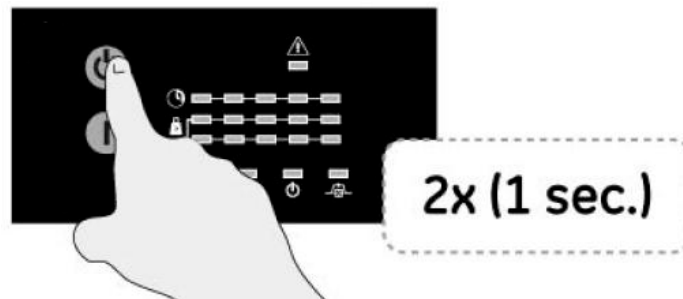

FIG 50 – TO TURN THE UPS OFF
2. Press the keypad  (FIG 50) for 1 second to switch the UPS to BYPASS.
3. Press the keypad  (FIG 50) for a second time for 1 second to switch the UPS OFF.